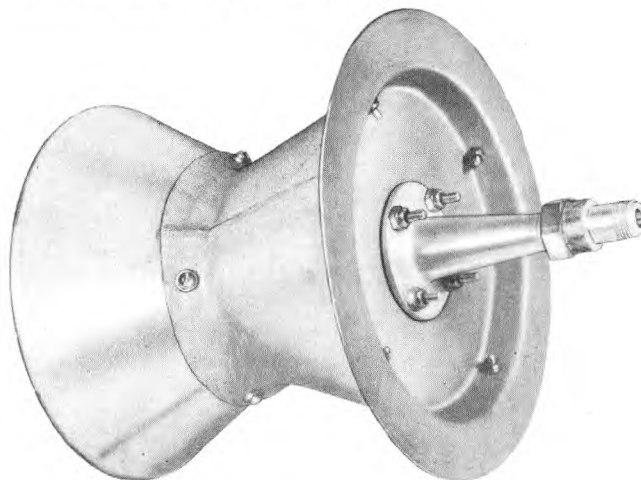

Figure 2-6. Antenna Assembly AT-49/APR-4
(5) ANTENNA AT-49/APR-4.—Mount Antenna AT-49/APR-4 (see figs. 2-6 and 2-7) on the underside of the airplane so that the axis of the cone makes an angle of approximately 45 degrees with the horizontal. When two antennas are used they should be mounted on opposite sides of the ship with the axis